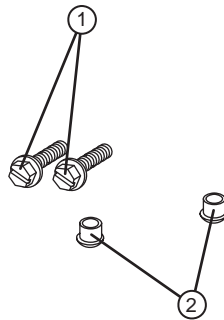
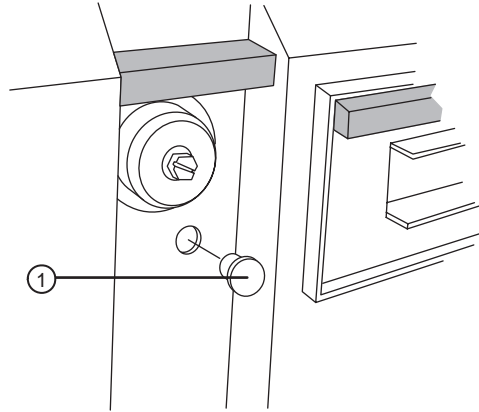
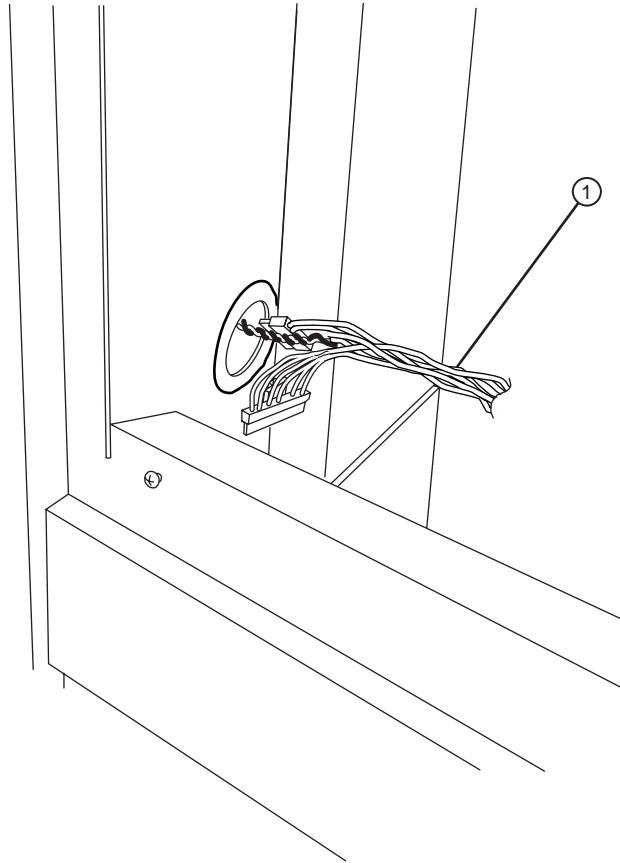

Figure 1-5 Hardware for preparing the buffer.
Figure 1-7 Placing the plastic plugs and foam pads.
Figure 1-15 Routing the buffer harness cable through hole (right, bottom, inside front).
The buffer comes with a kit for preparing the unit. Check the kit's contents against the hardware shown in Figure 1-5.
①—Buffer carriage lock bolt (1 of 2, left and right).
2. Insert the plastic plugs (see Figure 1-5) in the two (2) shipping screw holes. Refer to Figure 1-7.
21. Press the gasket membrane provided (see Figure 1-5) onto the buffer at the harness hole. Refer to Figure 1-15.
①—Wire bundle.
22. Route the wire bundle through the rubber gasket and into the imagesetter. Refer to Figure 1-15.